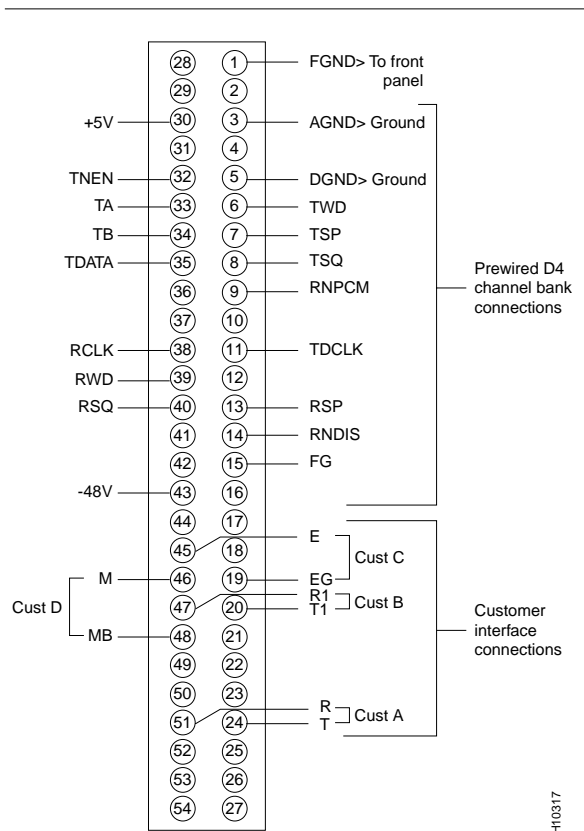

Figure 4 Connector Pin Assignments
3.08 Backplane Interface—The backplane interface is a link between the Cisco 90i Channel Unit and the D4 channel bank's backplane buses. Figure 4 illustrates the backplane connections to the Cisco 90i Channel Unit.